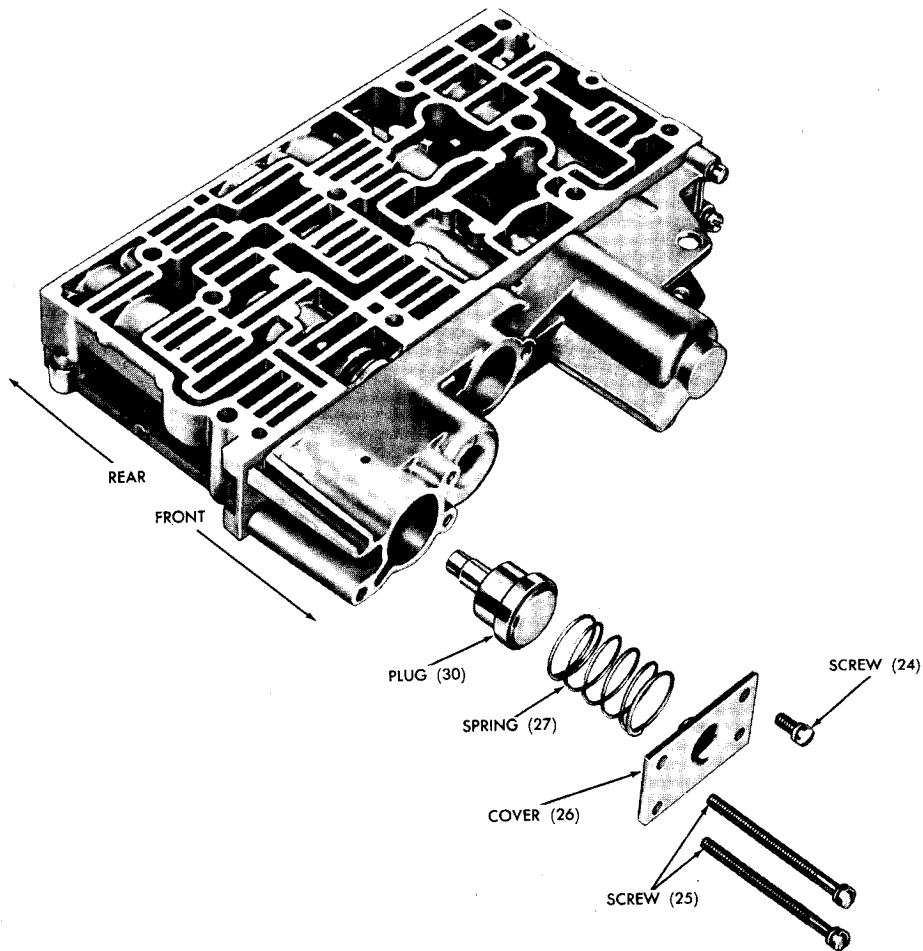

Fig. VIII-6 Intermediate-to-high shift valve components — exploded view
(7) Intermediate-to-high shift valve components (fig. VIII-6)